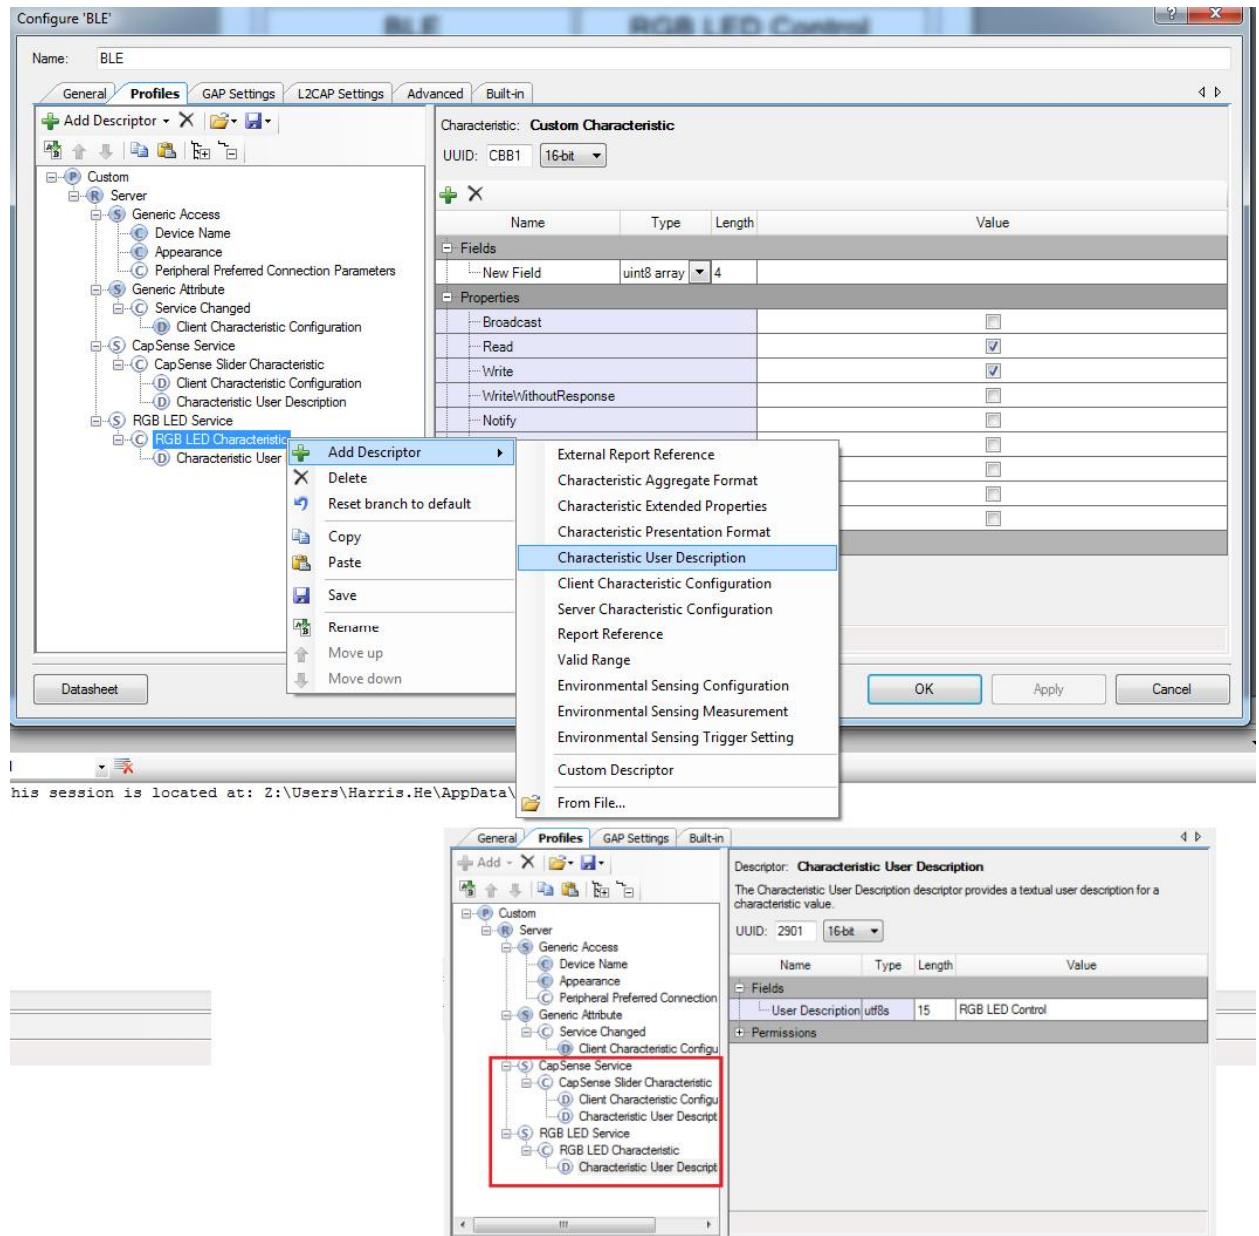

Figure 9: Profiles Tab for Lab 4
- h. The final result can be found from Figure 9.